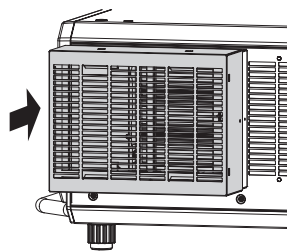

Fig. 1
1) Attach the long life filter cover to the long life filter mount clasp. (Fig. 1)